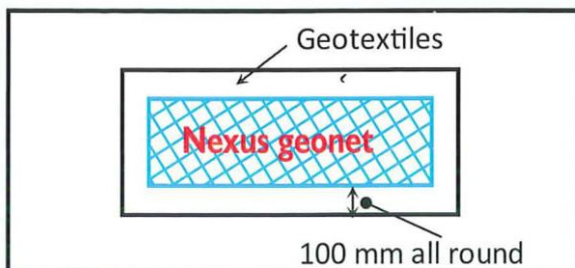

Fig 14 - Geotextiles details
2. Cut geotextiles to size allowing 100mm extra all round (Fig.14).